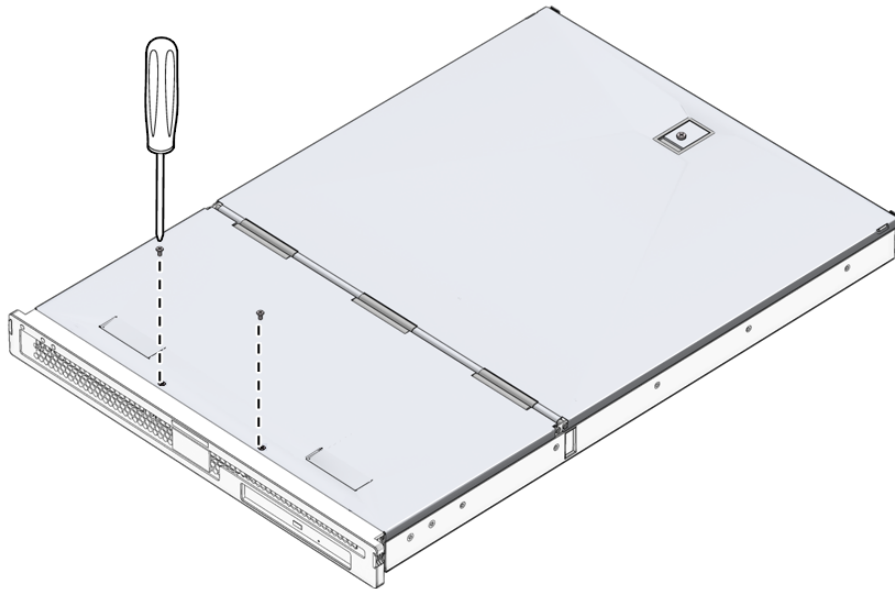

FIGURE 1-2 Location of Screws on the Front Section of the Cover
2. Undo the screws that fasten the front section of the cover to the chassis (FIGURE 1-2).